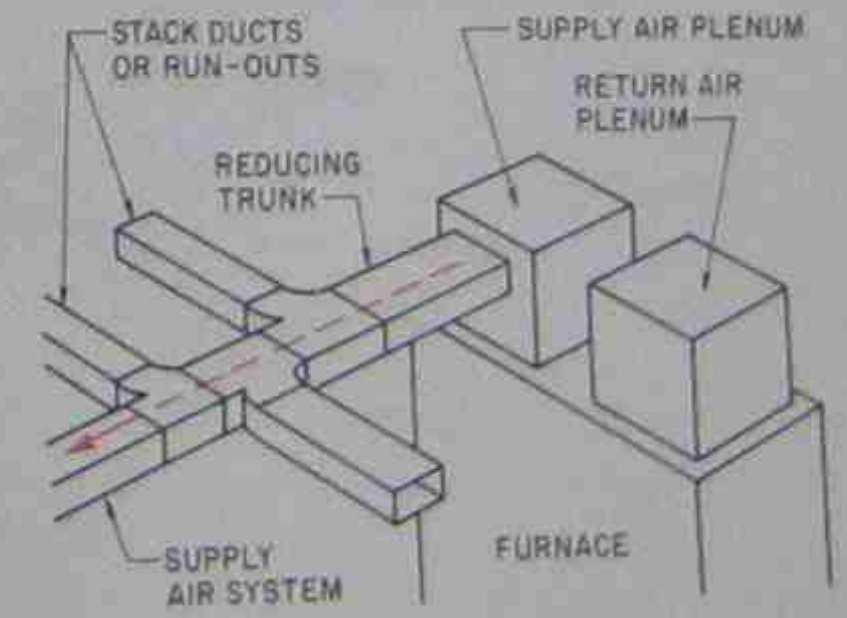

Figure 39-34. Square or rectangular duct.
1. All square or rectangular metal duct, the trunk line, and the branches are the same, Figure 39-34.